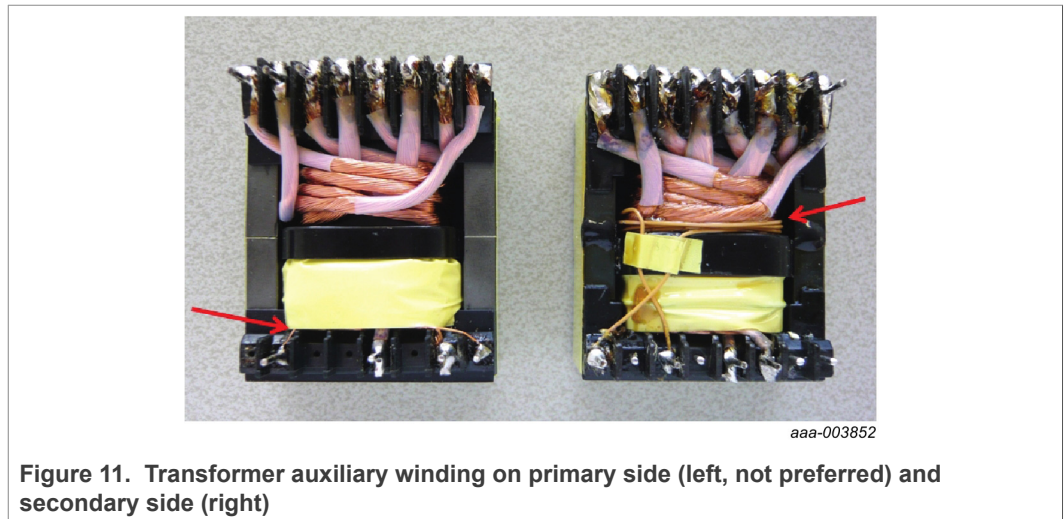

Figure 11. Transformer auxiliary winding on primary side (left, not preferred) and secondary side (right)
- To use the auxiliary winding voltage for the IC supply and for HBC output voltage measurement (using SNSOUT), the auxiliary winding supply must be an accurate representation of V_O . To ensure a good coupling, place the transformer auxiliary winding physically on the secondary output side. When the transformer contains separate sections for primary and secondary winding (see Figure 11 and Figure 12), this aspect is more critical than on transformers that have all windings in one section.
V_{SNSOUT} and/or V_{SUPIC} can contain unwanted primary voltage because of less optimal position of the auxiliary winding. When the transformer contains separate sections for primary and secondary winding (see type in Figure 11 and Figure 12), this aspect is more critical than on transformers that have all windings in one section. This deviation can seriously endanger the feasibility of the SNSOUT sensing function. It can also have a serious effect on the SUPIC voltage.